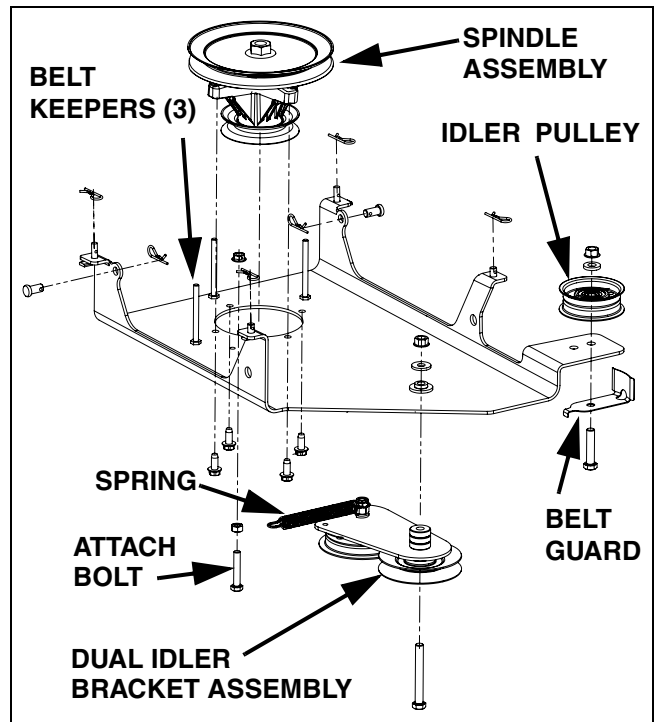

FIGURE 2
6. Remove and retain the clevis pins and hair pins, spindle assembly (618-0411), the three (3) belt keepers (711-1000), idler pulley (756-0981A) and belt guard (732-1013), dual idler bracket (784-5727) with pulleys and spacers assembly, spring (732-0978) and its' attach bolt and all securing hardware. See Figure 2.